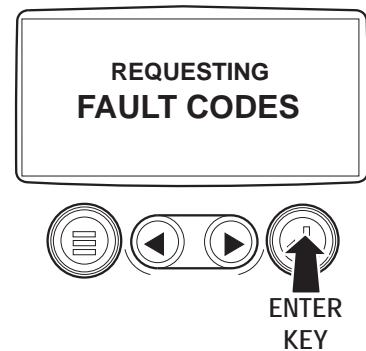

Figure 14 – Fault Codes
3. Touch the Enter Key to view any stored fault codes. The display will respond by presenting a Requesting Fault Codes message, while the system retrieves the codes. See Figure 14.